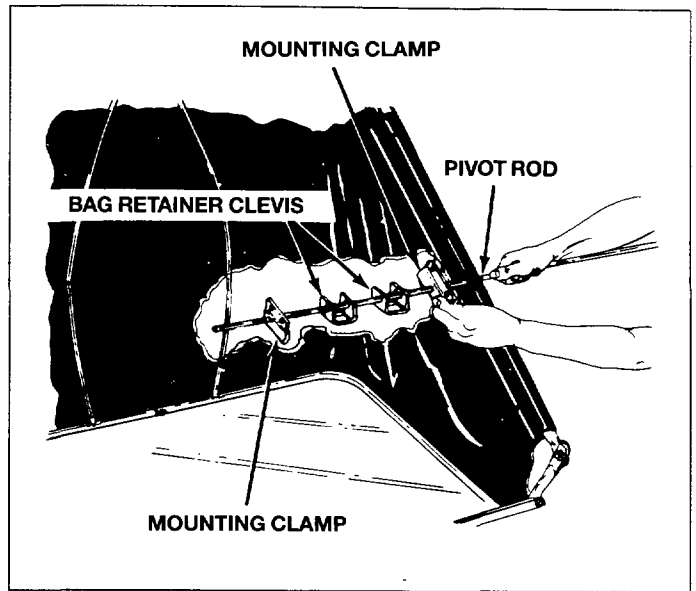

Fig. 23
- Slide pivot rod through holes in side of upper hopper tubes that you just pierced in step 12. Slide one mounting clamp onto rod, next slide two bag retainer clevises and one more mounting clamp before rod is pushed into other hole on opposite side of bag. See figure 23.